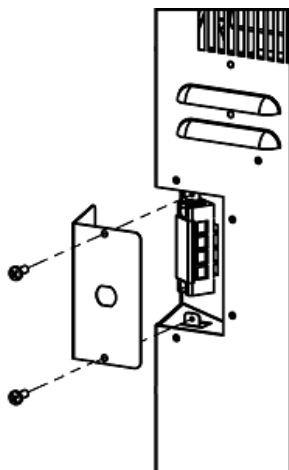

Fig. 3-1
- Remove the 2 securing screws from the junction box cover plate, located on the middle left-hand, back-side of the appliance (Fig. 3-1).